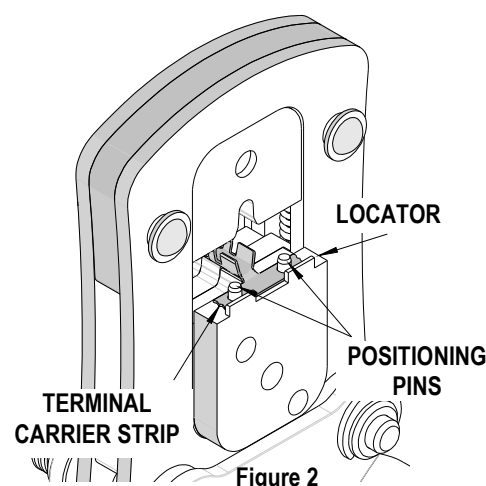

Figure 2
2. Place the properly stripped wire into the open terminal barrel. Push the wire into the tool until the end of the wire contacts the wire stop, making sure that all wire strands are inside of the conductor barrel. See Figures 2 and 3.